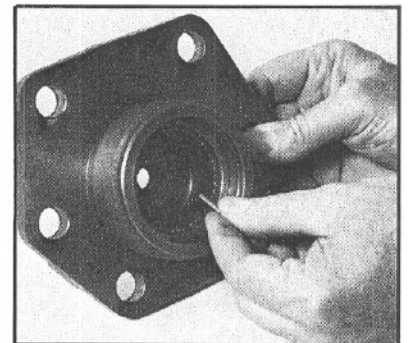

Figure 131
30. Assemble the bearing rolls into the side cover bearing race (FIG. 131). If you install an unmarked bearing or bearing BR-866-1, assemble 44 rolls. If you install bearing F83508, assemble 43 rolls.